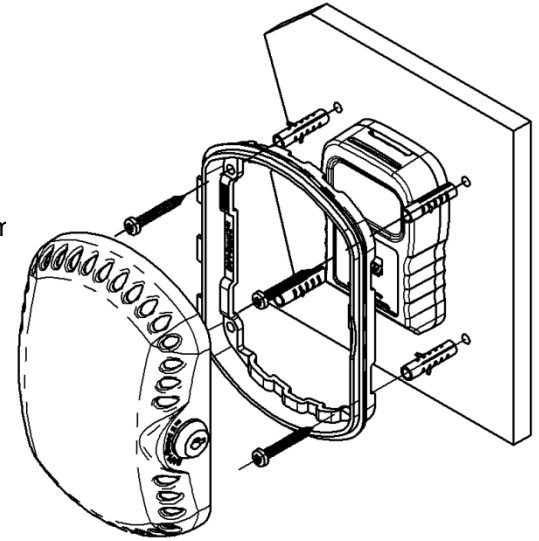

Figure 2: Thermostat Guard Mounting
- For drywall, drill four 9/32-inch (7.1mm) holes. Insert the anchors until they are flush with the wall surface. Attach the base to the wall with the drywall screws (see Figure 2).
- For concrete or cinder block, drill four 5/32-inch (4mm) holes, 1-3/4 inch (45mm) deep. Attach the base to the wall with the concrete screws (see Figure 2).